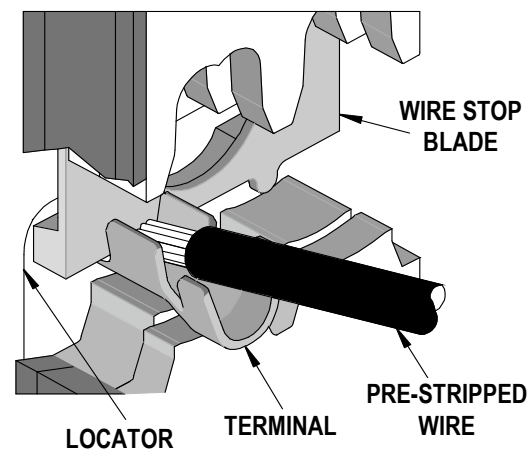
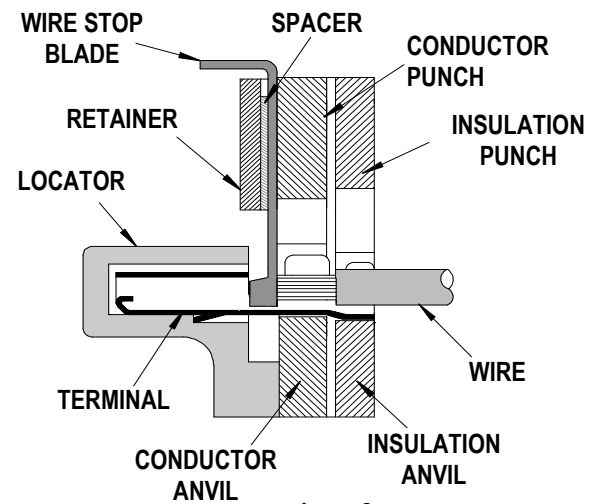

Figure 1
Figure 2
4. Slide the pre-stripped wire into the wire stop blade. See Figure 1. Be sure to hold the wire in place until the terminal is fully crimped. See Figure 2.